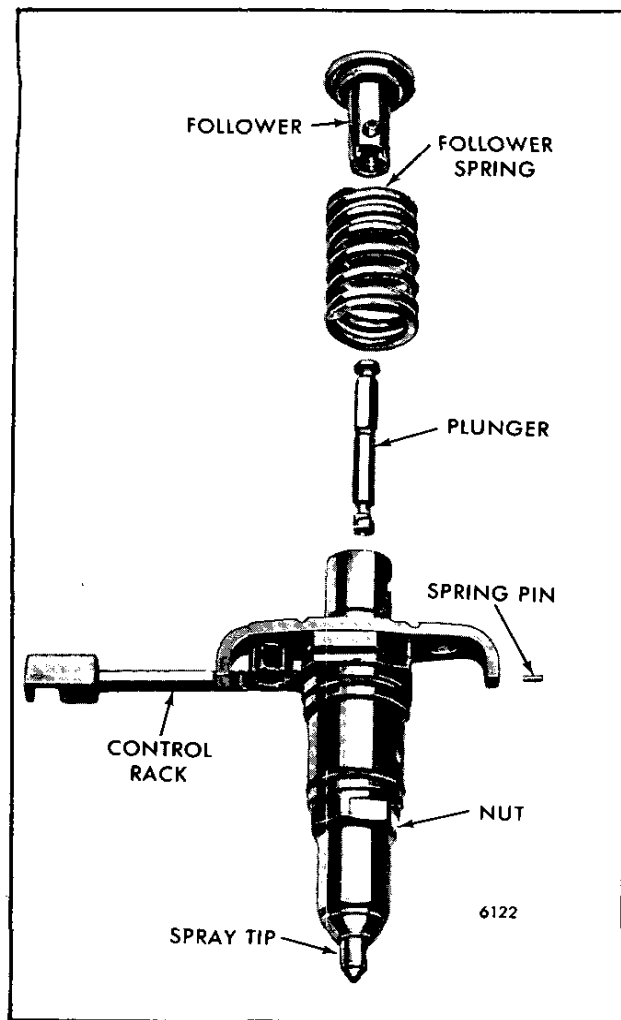

Fig. 18 - Injector Plunger, Follower and Relative Location of Parts
1. Refer to Fig. 18 and slide the head of the plunger into the follower.